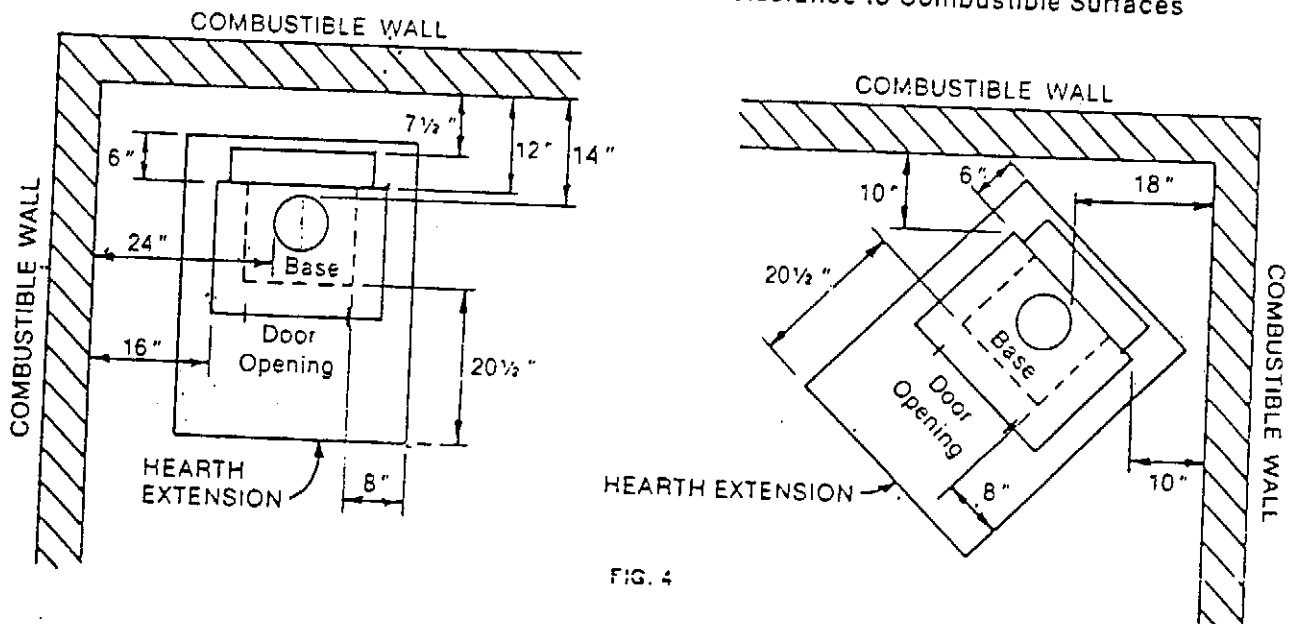

FIG. 4
The floor area below the stove must be protected with a hearth extension of ½" minimum thickness non-combustible material, extending at least 8" beyond each side and 20½" in front of the stove base. See figure 4.
1. Set hearth and stove in location for marking holes in accordance with the dimensions listed on Fig. 4.